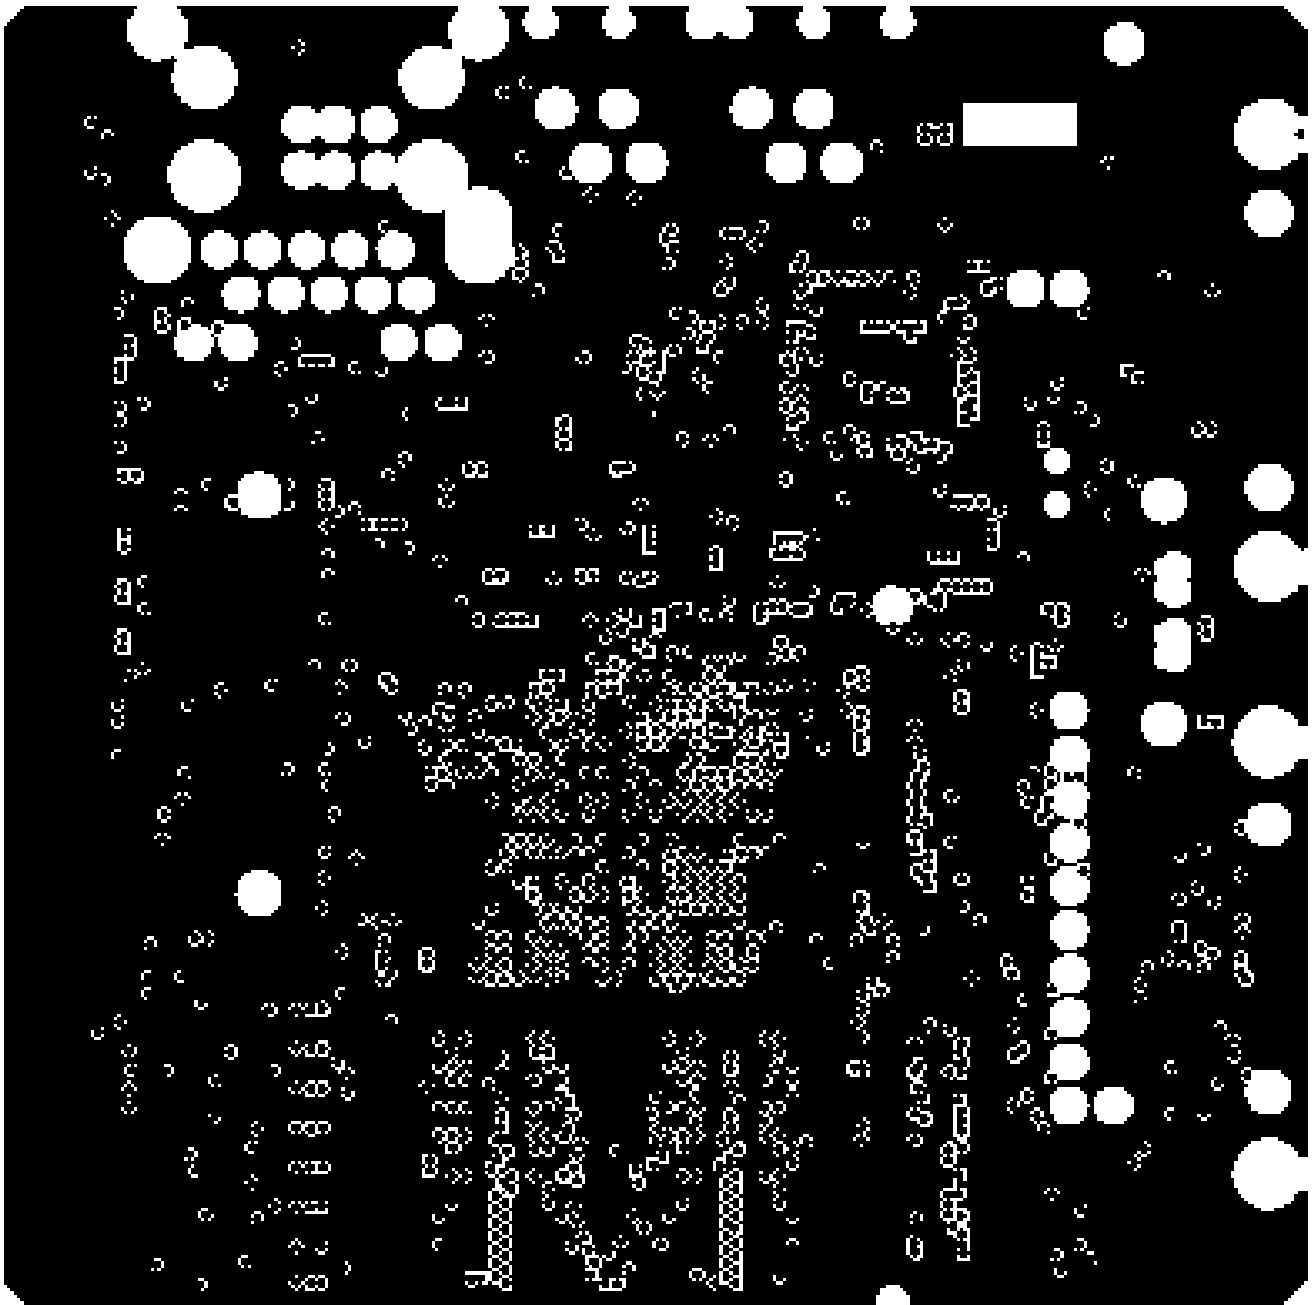

Figure 58. Second Etch Layer
- Figure 58. Second Etch Layer